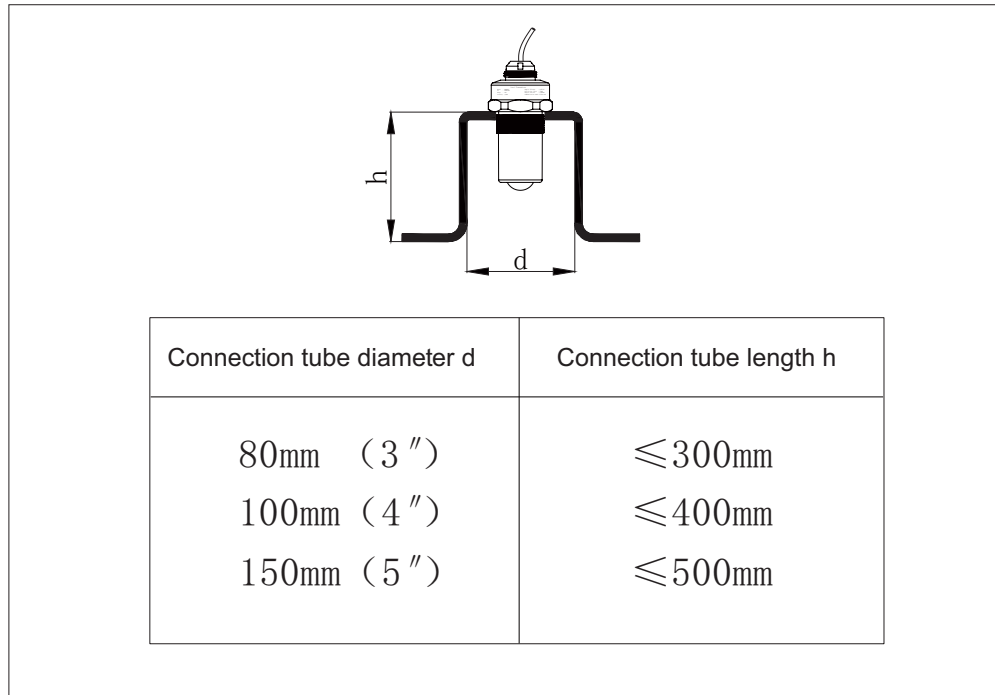

Figure 7
- If the length of the container connection is long, please refer to Figure 7. The longest installation short tube should be smaller than the size shown in Figure 7 as far as possible, and the end must be smoothed without burrs and other protrusions. If necessary, use the "false echo storage" function to eliminate the reflected signal at the end of the tanks nozzle, and you can also obtain better measurement results.